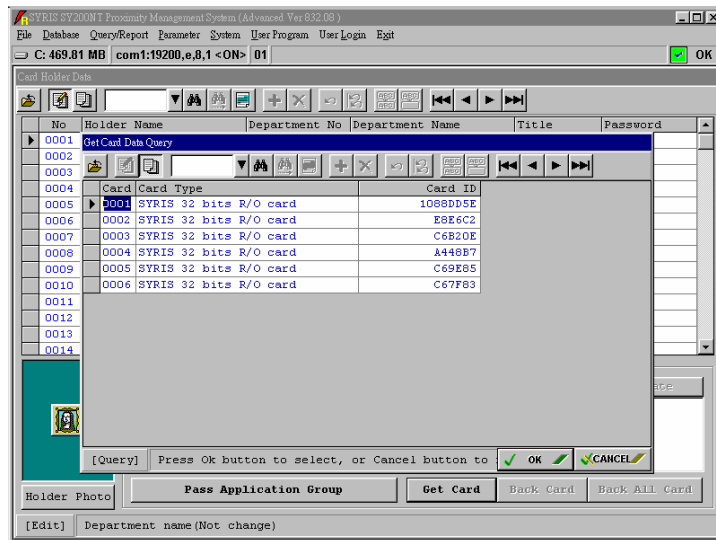

Fig.7-3 Get Card No Select
5. Click "Get Card", wait screen display, as Fig.7-3.